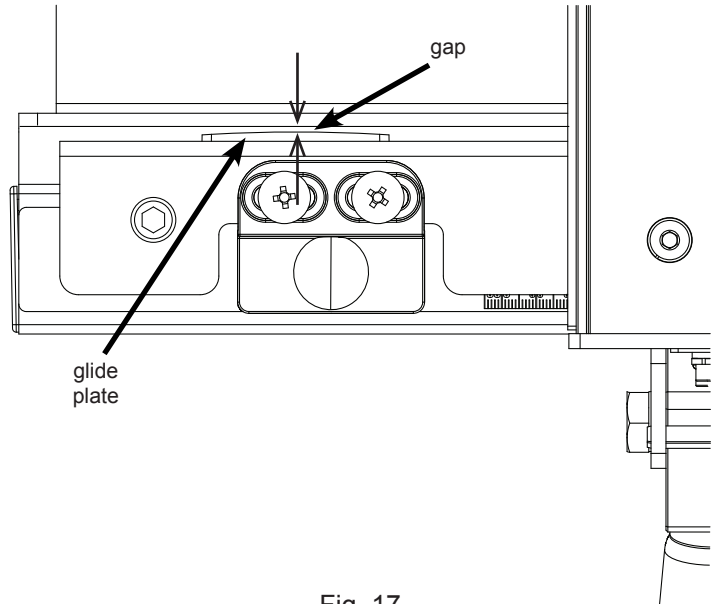

Fig. 17
17. Once the fence is tightly clamped to the main tube, move the left end of the main tube back toward the saw until there is only a small gap (approximately $1/16''$) between the front rail and the rear face of the glide plate on the fence (see Fig. 17). Tighten the left-most M8x1.0x16 hex head bolt that holds the main tube to the front rail using a 13 mm wrench. Be careful not to overtighten the bolts because you may strip the threads in the main tube (recommended torque = 8.0 ft·lbs).